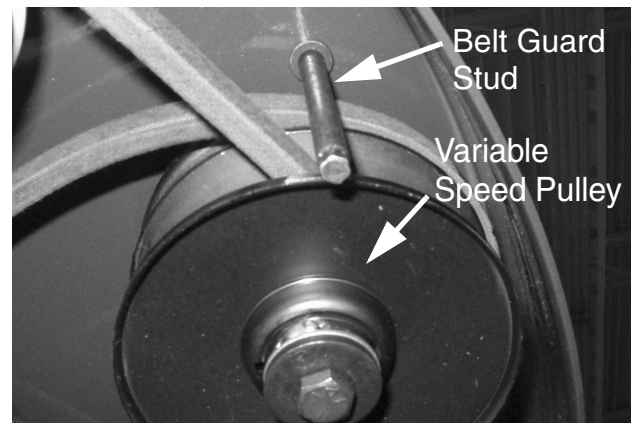

FIGURE 3
7. Install the Belt Guard Stud, Item 1, from the underside of the frame (See Figure 3) and secure using the Hex Flange Lock Nut, Item 2. Ensure the belts are routed to the inside of the Belt Guard Stud as shown in Figure 3.